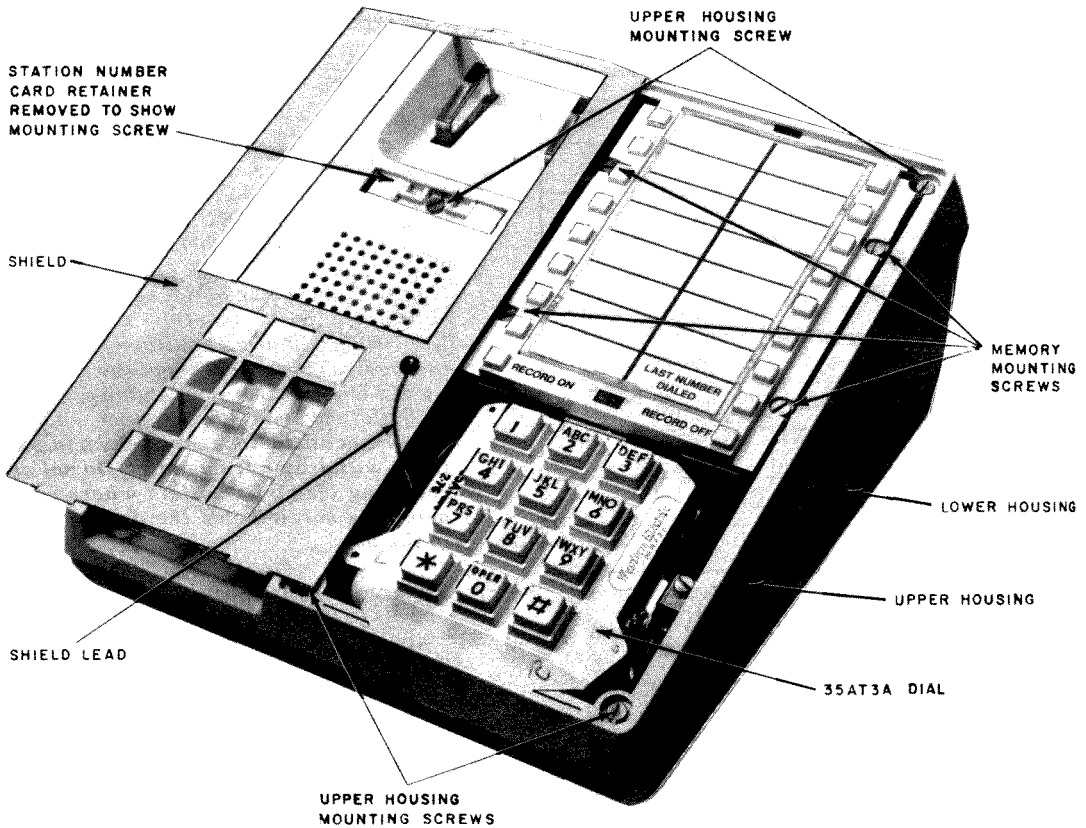

Fig. 4—2960A01M (MD) Telephone Set With Handset and Faceplate Removed and Shield Laid Aside
- 841417165 Shield and Lead Assembly (Fig. 4)